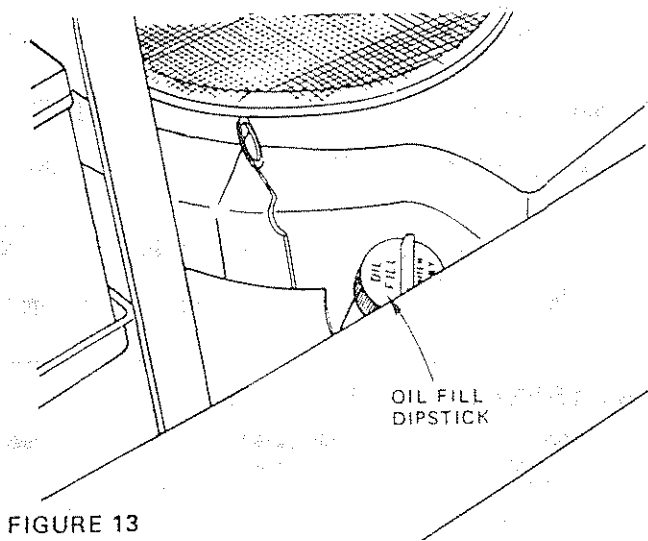
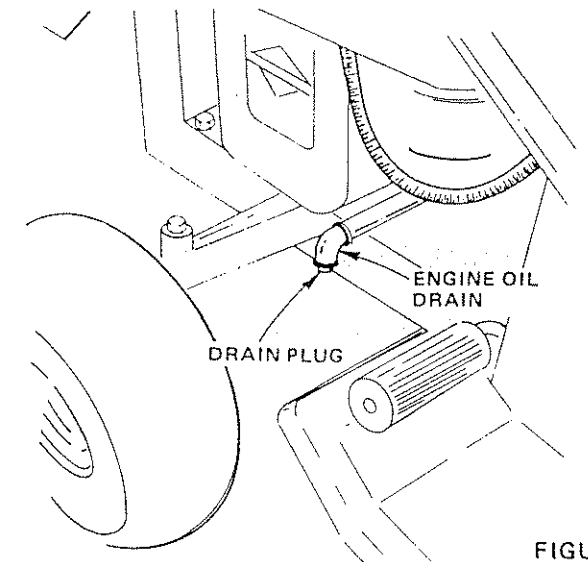

FIGURE 13
FIGURE 14
- Drain Oil with Engine warm. Loosen Oil Drain Plug (Fig. 14) and remove dipstick (Fig. 13). Catch Oil in a suitable container. Replace Plug.
Wipe dipstick (Fig. 13). clean, push it down tight for a few seconds, remove and read Oil Level. If necessary, add Oil until "FULL" mark is reached. (See chart, page 6). NOTE: DO NOT OVERFILL.